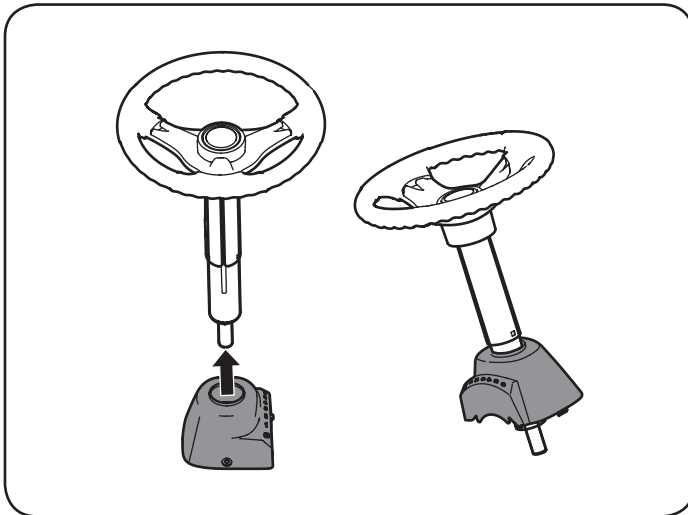

Figure 1
1. Slide the pedestal cap onto the steering shaft so that when the steering shaft is installed on the tractor, the pedestal cap will be upright as shown in Figure 1.